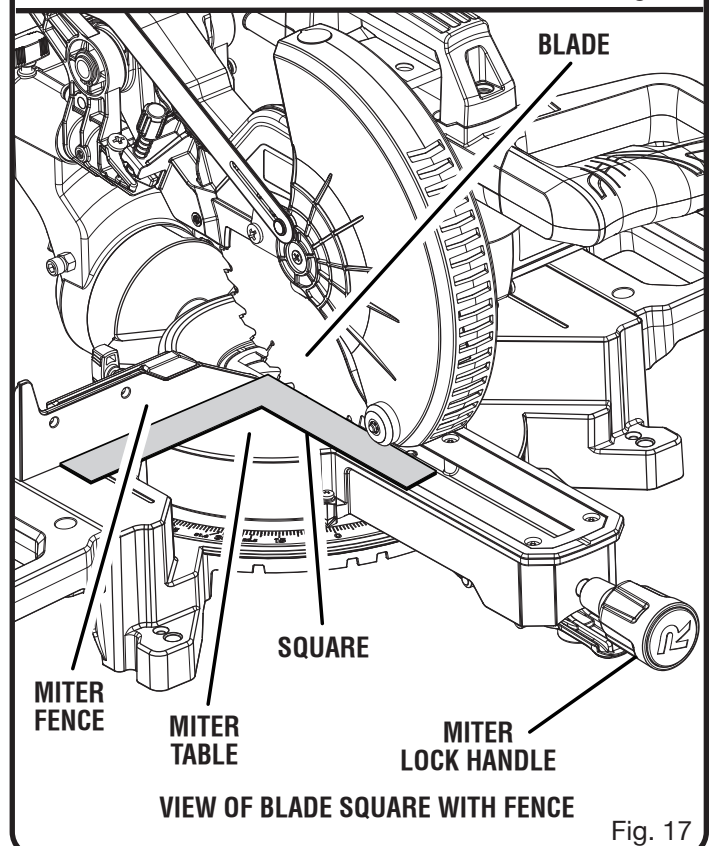

Fig. 17
See Figures 17 - 22.
- The edge of the square and the saw blade should be parallel as shown in figure 17.